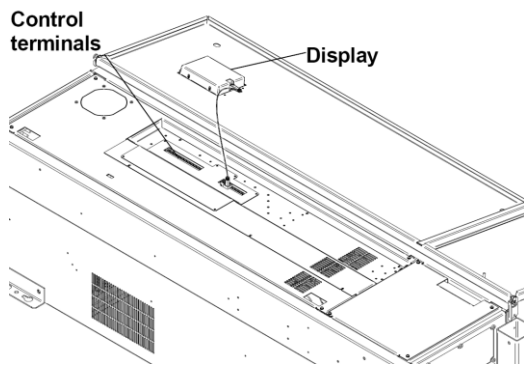
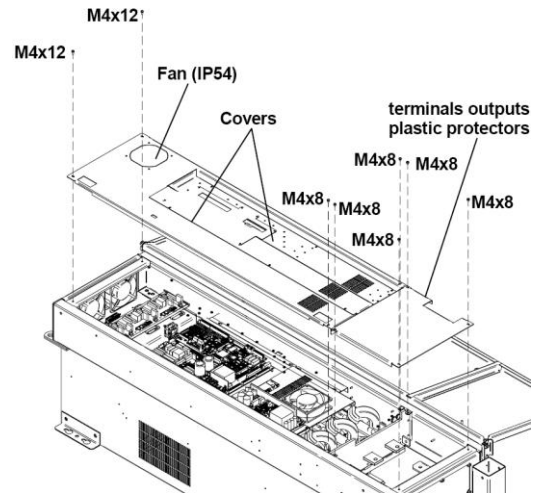

Figure 4.1 Disconnect the Display and the control terminals
Figure 4.2 Removal of the covers
Follow figure 4.1 and figure 4.2 while reading these instructions:
- 1) Place the covers on the chassis as it is shown in figure 4.2.